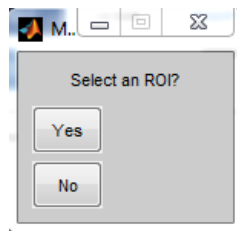

Figure 2.8 Vessel ROI selection menu. The user can proceed with diameter measurement or skip the measurement for the current data epoch.
2. A single image frame from the beginning of a data epoch will be displayed (Figure 2.7) along with a menu to select an ROI (Figure 2.8).